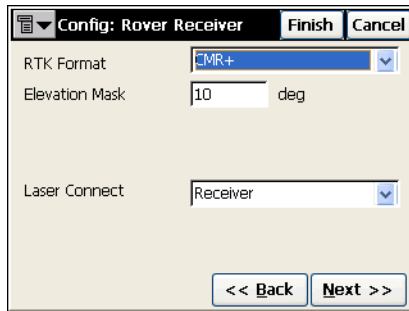

Figure 3-11. Config: Rover Receiver (RTK)
- RTK Format, which needs to coincide with this set for the Base station (Figure 3-11).
1. Select the *Laser Config* option from the menu in the upper left corner of the **Config: Rover receiver** screen (Figure 3-11 on page 3-9). Select the device which the laser is connected to.